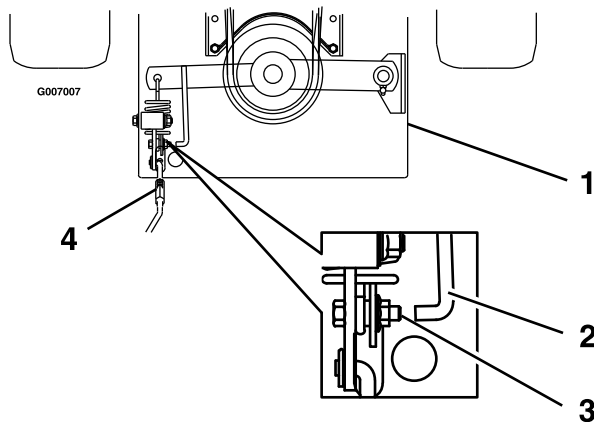

Figure 17
3. Look through the round hole in the left rear corner of the engine deck to inspect blade clutching belt tension. Bolt on blade engagement linkage bellcrank and indicator arm should align within 1/16 inch (1.6 mm) (see Figure 17). Refer to **PTO Engagement Linkage** for adjustment.